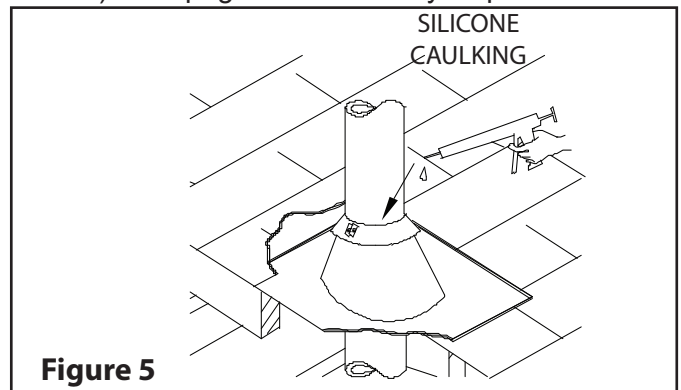

Figure 5
Step 8: Tighten the collar using the supplied bolt. Make sure the joint is properly caulked (Fig. 5). See page 4 for Chimney Cap installation.
Step 7: Tighten the collar using the supplied bolt. Make sure the joint is properly caulked (see Figure 5).
For sloping roofs, place the flashing under the upper shingles and on top of the lower shingles. Nail the flashing to the roof using nails. Place the storm collar around the chimney and slide down on top of the flashing. Tighten it with the bolt supplied making sure the joint is properly caulked (see Figure 5).